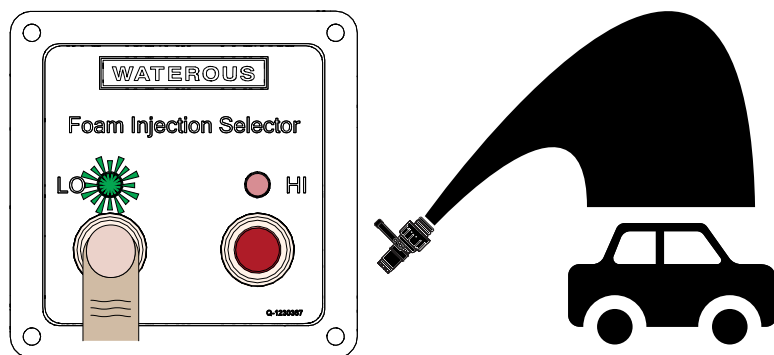
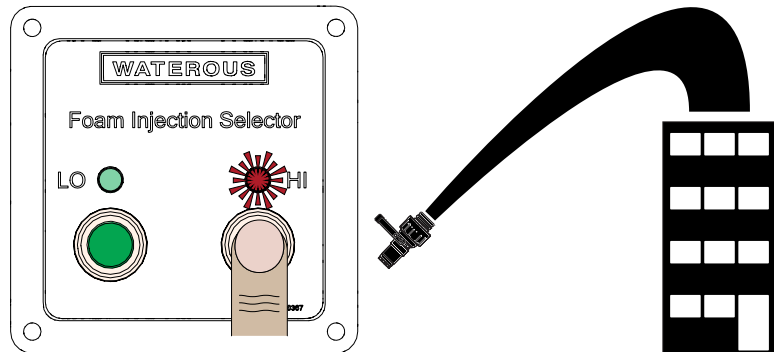

Figure 10
Figure 11
Use the selector panel to select between the low pressure/high volume (**Figure 10**) waterline, or the low volume/high pressure (**Figure 11**) waterline. The illuminated LED indicates the enabled port on the electric valve.
1. Press the Lo button to direct the foam concentrate into the low pressure/high volume outlet (**Figure 10**).
2. Press the Hi button to direct the foam concentrate into the low volume/high pressure outlet (**Figure 11**).